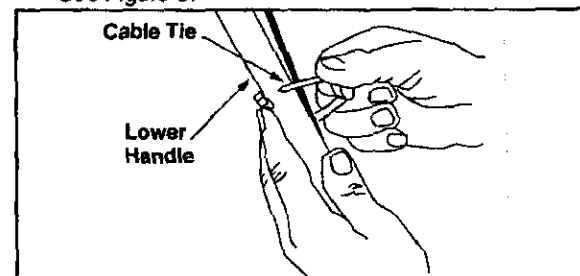

Figure 5
- Fasten the cables to the lower handle with the two cable ties found on the lower handle. Be sure to insert the post on the cable ties into the holes provided on the lower handle. These holes may be found on either the inside or outside of the handles. Pull the cable ties tight and trim off the excess. See Figure 5.